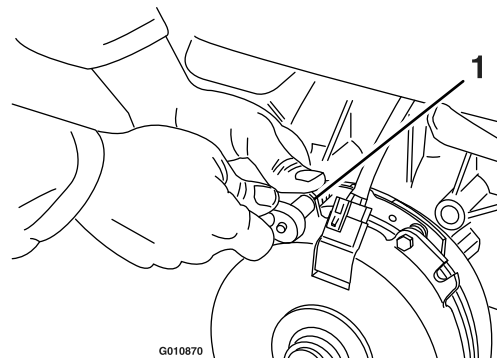

Figure 84
- A. Loosen both brake-mounting bolts 1/2 to 1 full turn as shown in Figure 84.